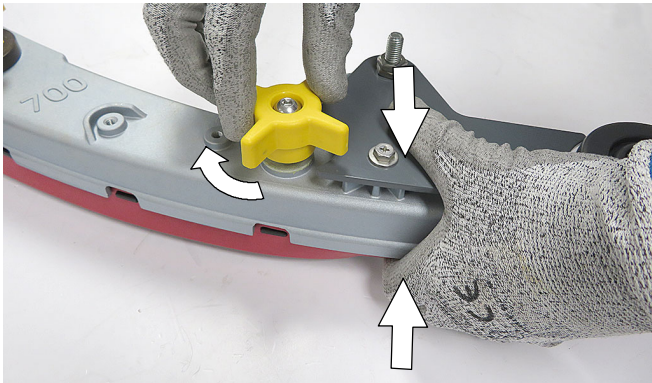

FIG. 148
- Squeeze the squeegee frame and blade retainer together and re-tighten the star knobs (Figure 148).